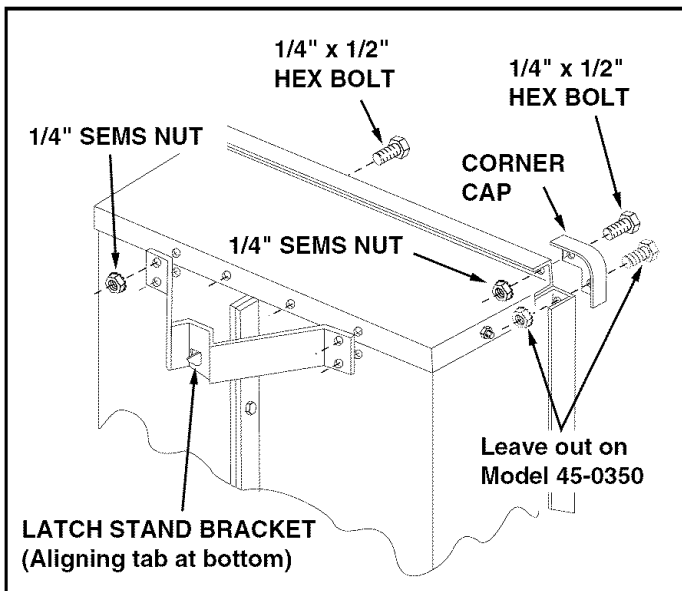

FIGURE 5
12. Assemble the latch stand bracket to the cart so that the aligning tab is at the bottom of the bracket. Use four 1/4" x 1/2" hex bolts and 1/4" SEMS nuts. **Tighten**. See figure 5.
13. Assemble a corner cap to each front corner using **one or two** 1/4" x 1/2" hex bolts and 1/4" SEMS nuts per cap. **Leave out the rear bolt** if the cart has top rails (model 45-0350 only). **TIGHTEN**. See figure 5.